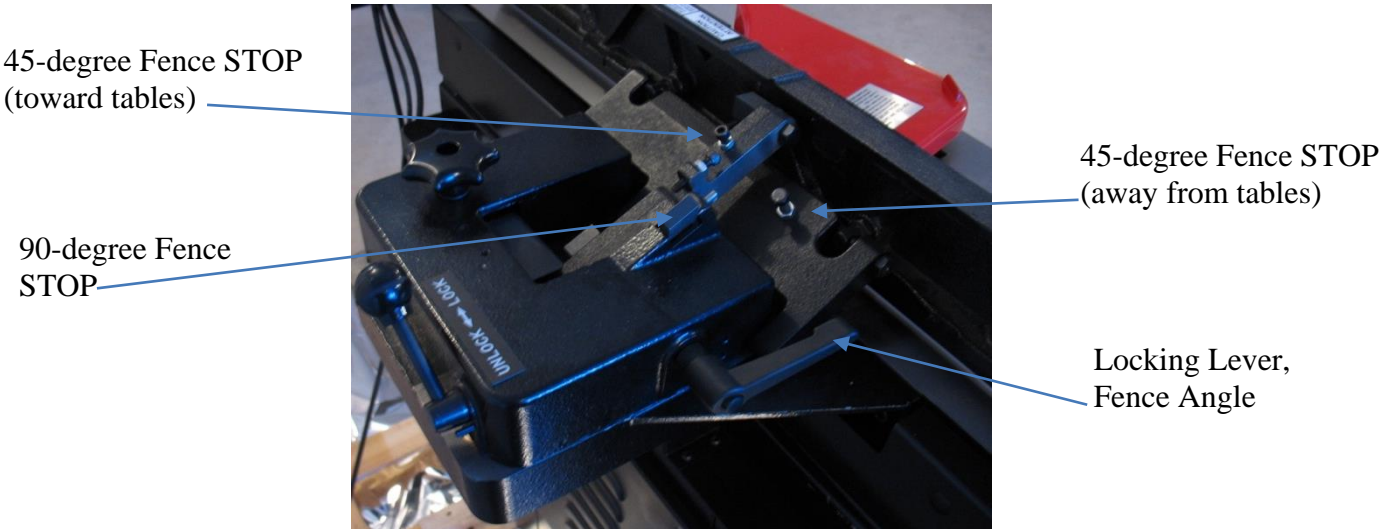

Figure 28: Fence Angle Adjustment Components
4. To adjust the fence perpendicular or angled to the bed, loosen the Locking Lever (Fig. 28) and adjust the fence to the desired position.
**NOTE:** The 90-degree position has an included reference STOP (Fig. 28). To adjust, flip the stop into position, loosen the lock nut and rotate the adjusting screw until the fence is at 90 degrees to the table. Tighten the lock nut and flip the stop back if making other angled adjustments. To check the 90-degree setting, place a square on the outfeed table and against the fence.
NOTE: The two 45-degree positions include two reference STOPS (Fig. 28). To adjust, loosen the lock nut and rotate the adjusting screw until the fence is at 45 degrees to the table, angled in or out.